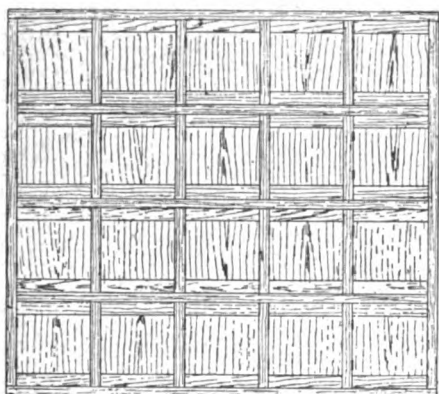
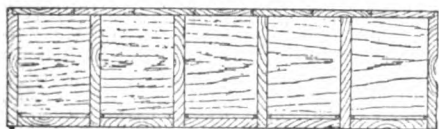

Fig. 1
Fig. 2
**Hanging Door with a Rule Joint.**—A door, with a serving board 7 in. wide, having a rule joint on the hanging stile, will have the same kind of joint in the serving board. Fig. 1 is a plan showing the serving board and joint; the dotted lines show the door below. Fig. 2 is a section through the door and serving board, showing a bracket fixed on the inside of the door to support the board. Before making the rule joint, get the brass back flap hinge, take the distance from the face to the centre of the pin, and mark on the end of the stile; this will be the centre from which to strike the radius of the joint as shown. The position of this centre must be found on the serving board by squaring across from the edge. Measure exactly how much the board overhangs the door, and to this add the distance the centre is from the face of the door; the sum of the two will give the striking point, and the radius will be 4½ in. The brass back-flap must be let in very carefully
**Extension Ladder.**—Here is described how to construct a strong and easily made ladder, 15 ft. long, to be in two parts, one part being 9 ft. long over all. When opened to full length the base of the ladder will be quite 6 ft. from the wall against which it will rest. Owing to the ladder having to stand out so far at the bottom, it will be necessary to make the sides of rather strong stuff. The best wood to use will be 3-in. by 2-in. sound red deal, straight grained and free from knots and shakes, finished to about 2½ in. by 1½ in.; the sharp arrises should be planed off. The rungs should be of 1½-in. by 1-in. material, and should be about 9 in. apart measuring from centre to centre, being fitted into notches cut in the sides, and fixed with a couple of 2½-in. nails or screws (the latter preferred); see Figs. 1 and 2. To allow the upper ladder to slip behind the lower, the two
bottom rungs can be let into the sides their full thickness as shown at A (Figs. 2 and 3). The breadth of the lower ladder at the bottom should be about 18 in., gradually tapering so that when both parts are joined the breadth at the top will be about 12 in. The irons, about 1½ in. by ½ in., and fixed on with screws, must be secured to the sides before the two top rungs of the lower portion, and before the two lower of the top portion. Provision should be made to keep the ladder from slipping.
**Set of Lockers.**—Figs. 1 and 2 show respectively an elevation and horizontal section of a set of twenty lockers, each division having a door and being 7 in. wide, 8 in. high, and 10 in. deep. The sides, top, bottom, and divisions should be of 1-in. stuff planed down to about  $\frac{3}{4}$  in. The sides, bottom, and top should be dovetailed together. The form of these joints is shown at A (Fig. 3). The sides should be grooved to receive the ends of the shelves and the shelves grooved for divisions, as shown by Fig. 3. It should be noticed that the grooves do not extend to the front edges. Use  $\frac{1}{2}$ -in. matchboarding in narrow widths for the back. This should fit into a rebate formed in the bottom, top,
and sides (see Fig. 2). The doors may be of 1-in. stuff, the grain running vertically, the top and bottom being clamped. The simplest method of doing this is to plough the end grain of the doors and also the clamp, then insert a tongue, and glue together. This construction is shown at Fig. 4. For hanging the doors to the divisions use  $\frac{1}{4}$ -in. broad butt hinges. Nail on a  $\frac{1}{2}$ -in. by  $\frac{1}{4}$ -in. stop against which the doors shut, and, if it is desired to keep out the dust, the stop may be continued all round, fitting against the doors when closed. These stops are shown in Fig. 2, and also at B (Fig. 3). If the doors are to be fastened, turnbuckles, cupboard locks, or padlocks may be used. The appearance will, of course, be much improved by fixing a piece of cornice moulding round the top.
**Trellis Work.**—In making a trellis, assuming the laths are all of one breadth, prepare a piece of ¾-in. or 1-in. board of the same width as the desired distance between the laths, and on one side of the board make grooves to hold five or six laths, the grooves being at the same distance apart as the width of the board (see Fig. 2). Now fit a few laths into the grooves in the board, which should be laid over the laths near one end. Then a lath can be placed on and
nailed through into the lower laths, first fixing one on each side of the board. The board may then be moved to the other end of the second lath, and the third lath can be nailed in position. Move the board lengthwise of the under set as laths are added. This process can be repeated until the work is finished. As will be seen, the object of using the board is to keep the lower laths in position whilst the upper laths are being nailed on (see Fig. 1). The laths should be fixed together with copper nails or small French nails, a piece of iron being placed beneath the lower laths so as to clench the nails when driven through by turning them backwards. If only one nail is used for each joint of the trellis, by merely moving the laths the spaces between them may be either square or diamond shaped. It will be noticed at A (Fig. 1) that a lath is broken away so as to show the board clipping over the under lath.
can be used, so that it is not necessary to have them returned. Procure a box 2 in. or 3 in. larger every way than the space occupied by the sections. If, for example, eight sections are to be sent, place these on a table right side up as they were in the hive (see Fig. 1). Then make a crate in which the sections fit exactly, as Fig. 2. This may easily be done with a saw, hammer and nails, and bradawl, from a grocer's box. Leave the ends of the top and one side unfastened until the sections are in, then finish nailing. Place about 2 in. of some elastic substance like shavings in the bottom of the box, and over this one or two folds of paper; upon this place the crate of sections. Pack all round the sides and the top in the same manner, fairly tight, but so as to leave a certain amount of elasticity. For heavier weights there may be used spiral springs about 2 in. long, made of wire, just strong enough to give a little with the weight. Two underneath, two on top, and one at each of the four sides might be sufficient. They can be fixed with nails, and could be returned by post.